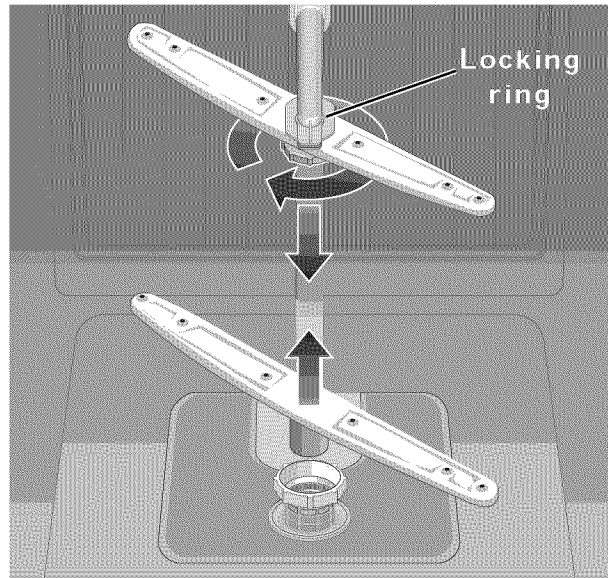

Figure 17. Removable Wash Arms
- The upper wash arm is held in position by a locking ring that can be released by turning it approximately 1/8 turn. See **Figure 17**.